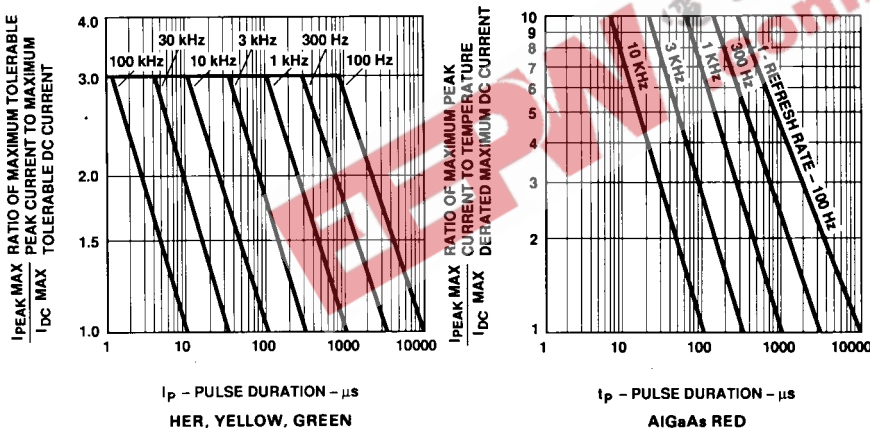

Figure 5. Maximum Tolerable Peak Current vs. Peak Duration ($I_{PEAK MAX}$ Determined from Temperature Derated $I_{DC MAX}$).
- See Figure 5 to establish pulsed operating conditions.